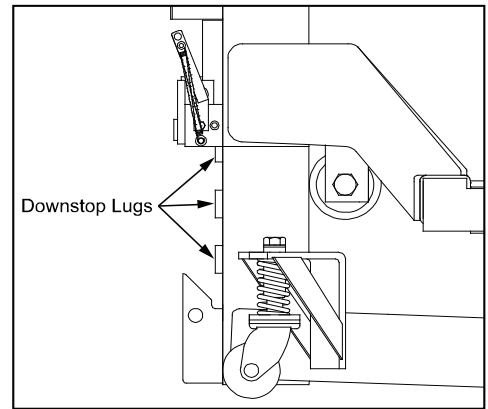

Figure 5
3. See figure 5 and 6 for downstop pawl and lug identification.